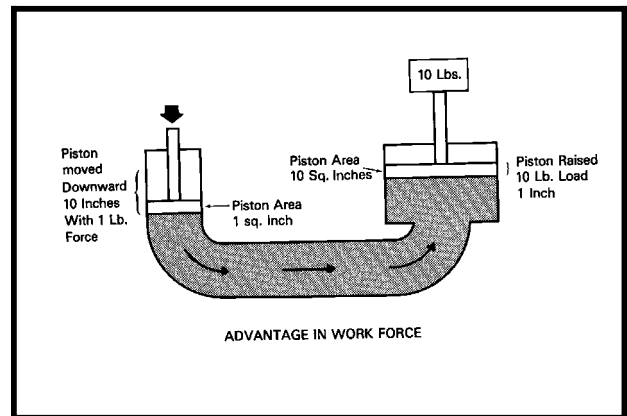

Figure 4
3. By making the containers or cylinders of different sizes, the mechanical advantage in work force increases (Fig. 4)